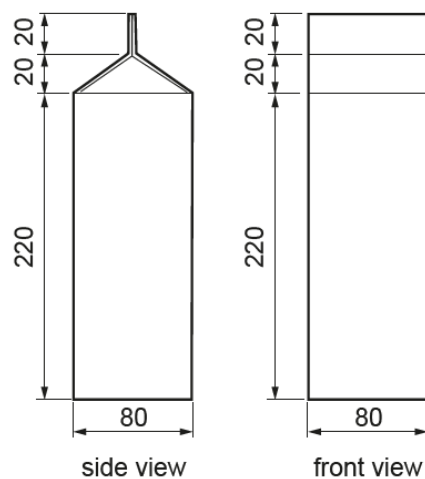

Fig. 2.1
- (a) Fig. 2.1 shows the side and front view of one carton.
- (i) Complete the 3D isometric drawing of the carton in Fig. 2.1 on the grid below.